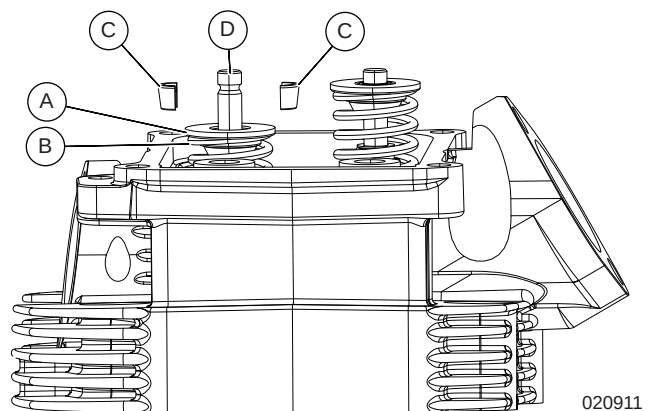

Figure 6-40. Remove Valve Spring Keepers
1. See Figure 6-40. Use a valve spring compressor to compress valve spring retainer (A) and valve spring (B) sufficiently to remove the two valve spring keepers (C) from valve stem (D).